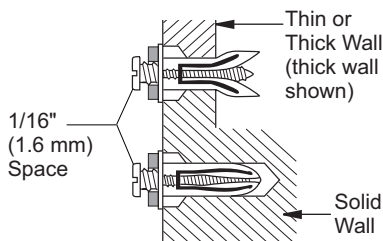

Figure 8 - Tightening Anchors
⚠ WARNING: Maintain minimum clearances shown in Figure 8. If you can, provide greater clearances from floor and joining wall.
5. Tighten two screws until 1/16" (1.6 mm) space (thickness of penny) is between screwheads and wall (see Figure 8).